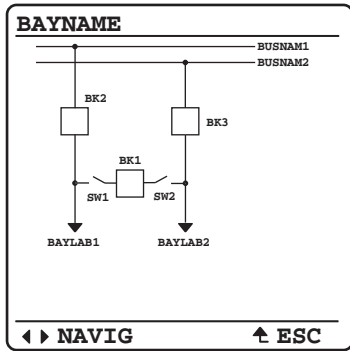
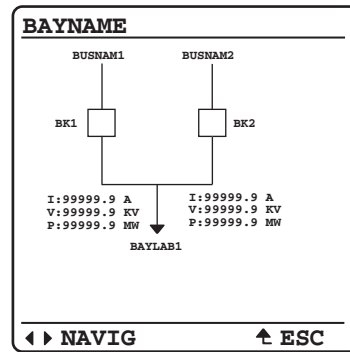

Figure 9 Breaker-and-a-Half
Figure 12 Source Transfer Bus
*Figure 9–Figure 12* are examples of some of the many selectable one-line diagrams in the SEL-451. Select the one-line diagram from the Bay settings. Additional settings for defining labels and analog quantities are also found in the Bay settings. One-line diagrams are composed of the following: